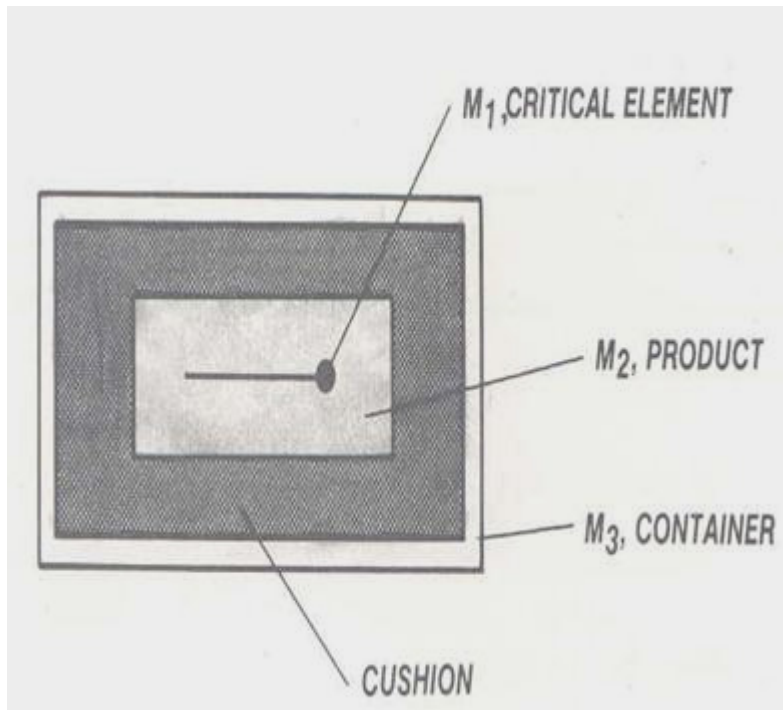

Figure 13.4 A simple product-package system
- Shown in Figure 13.4, the product-package system consists of four basic components: the outer container, the cushion, the product, and a critical element.